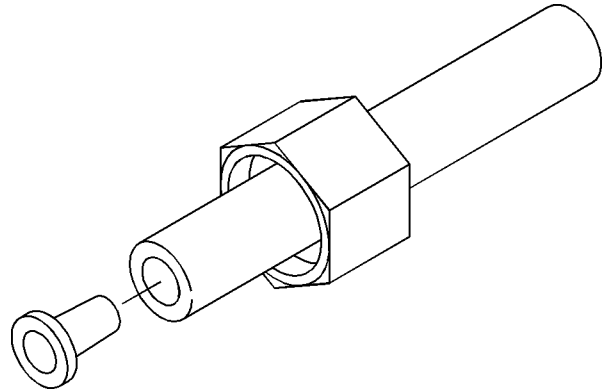

Figure 16. Brine valve tubing.
3. Slip the white nut over one end of the tubing and press the plastic insert into the end of the tubing (Figure 16). Connect to the brine valve and tighten nut.